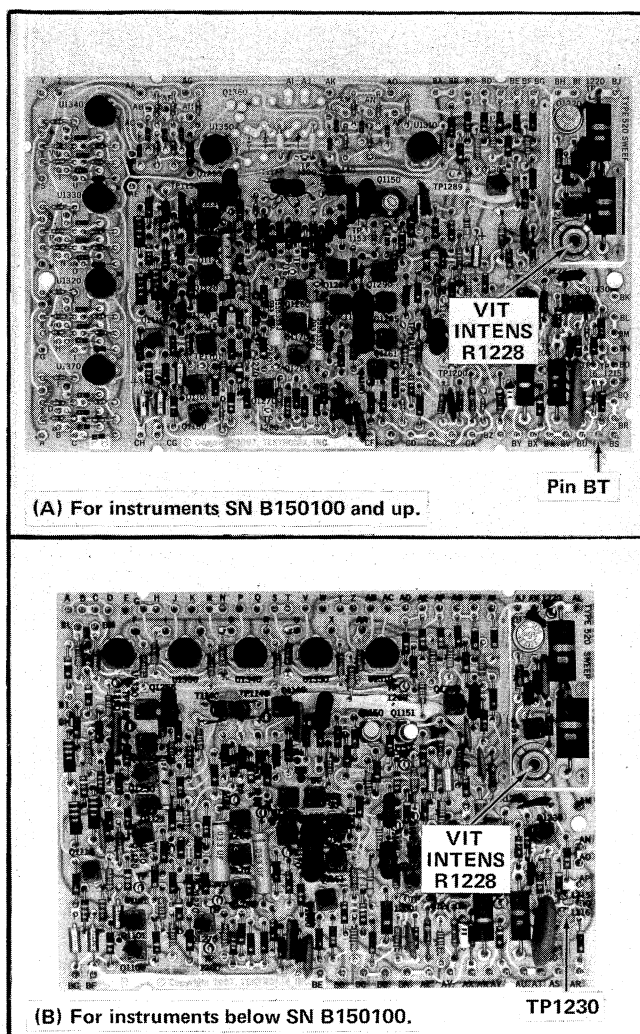

Fig. 6-7. Sweep board test point and adjustment locations.
f. ADJUST—VIT INTENS, R1228 (see Fig. 6-7), for maximum display intensity without any display defocusing.